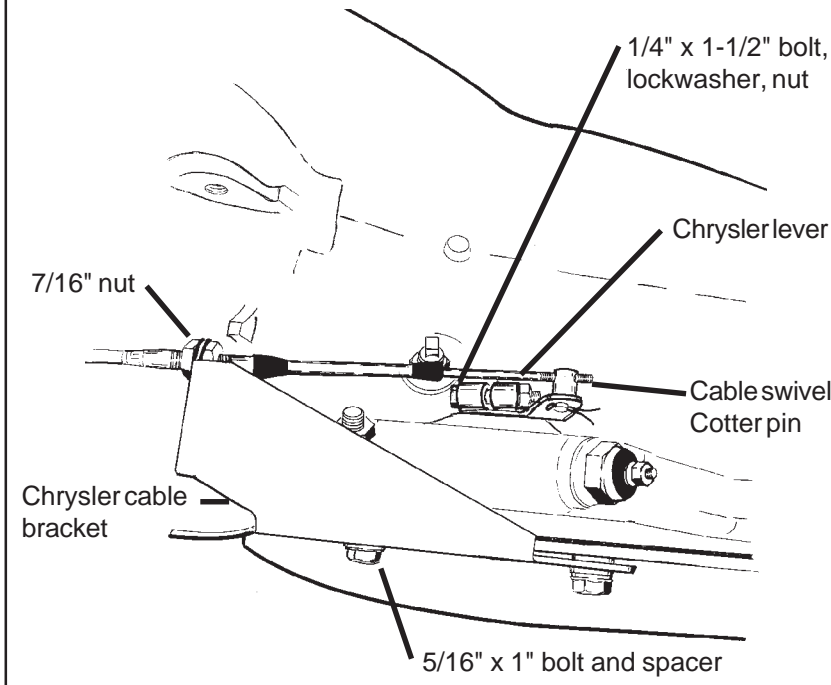

Figure 9
**STEP 21.** If you have not already done so, loosen pinch bolt on throttle lever on transmission. This is the lever on the small diameter shaft. Pry the lever off with a screwdriver and allow linkage to hang free. Remove and discard stock shift lever and stock shift linkage. Install B&M selector lever in position and tighten pinch bolt securely, (See **figure 9**). Make sure lever is not pushed down so far as to touch the transmission case. This will cause the lever to bind on the case. The lever should travel smoothly from front to back with a
**STEP 22.** Remove the two transmission oil pan bolts directly below the shift lever. Install cable bracket in position, (See **figure 9**), with two spacers between the pan and bracket. (If your transmission is equipped with a cast aluminum oil pan these spacers can be omitted.) Install the two 5/16-18 x 1.00" pan bolts supplied and tighten to 12-13 ft. lbs. Do not overtighten as this can damage pan gasket. **STEP 23.** Route the shifter cable according to **figure 5**. Avoid kinks and sharp bends and route the cable away from hot engine or exhaust parts.